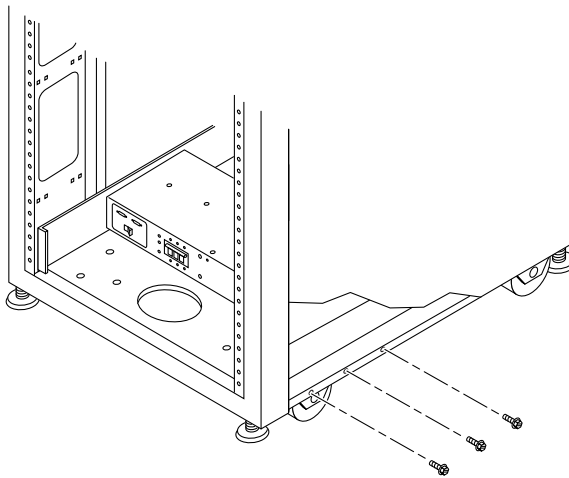

FIGURE 1-5 Removing the Mounting Screws
1. Remove the three mounting screws on the bottom right of the expansion cabinet (FIGURE 1-5).